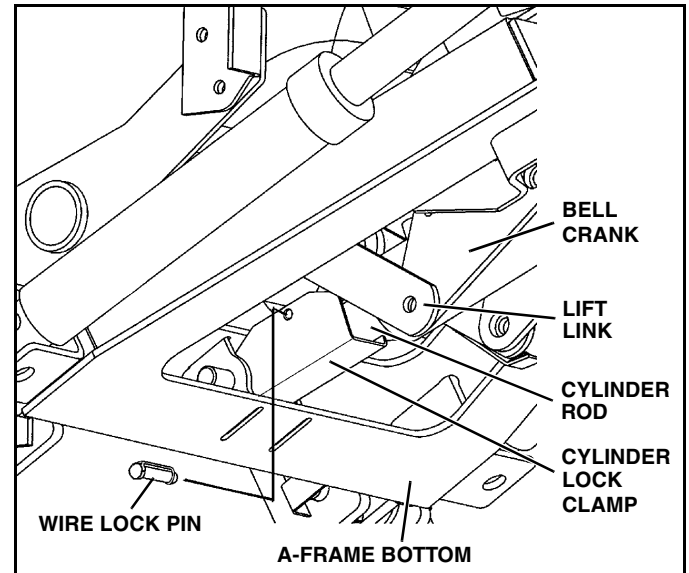

Figure 1-18
5. Position the cylinder lock clamp around the exposed (chrome) portion of the lift cylinder with the open side of the cylinder lock up. Install the pin. (See Figure 1-18).